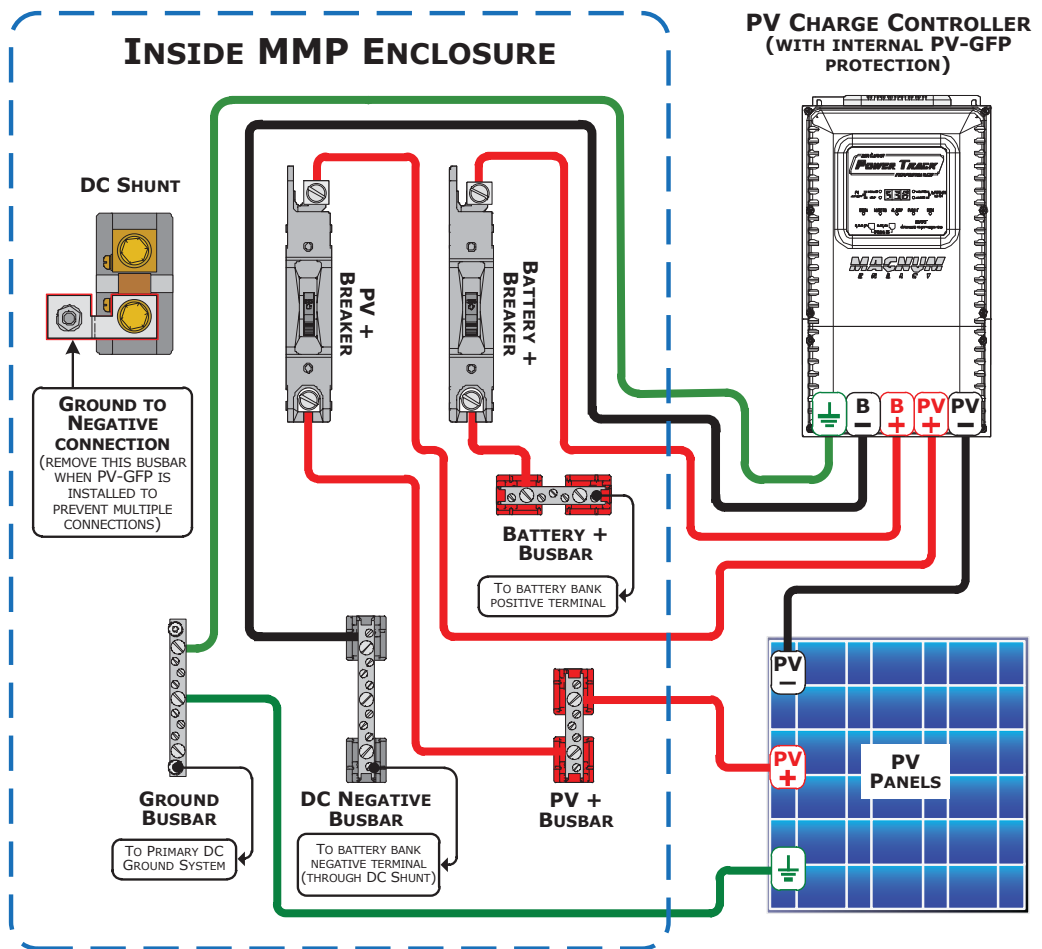

Figure A5-3, Wiring DC Breakers
4. Wire the breaker(s) to the DC circuit, use Figure A5-3 to assist in wiring the breaker.